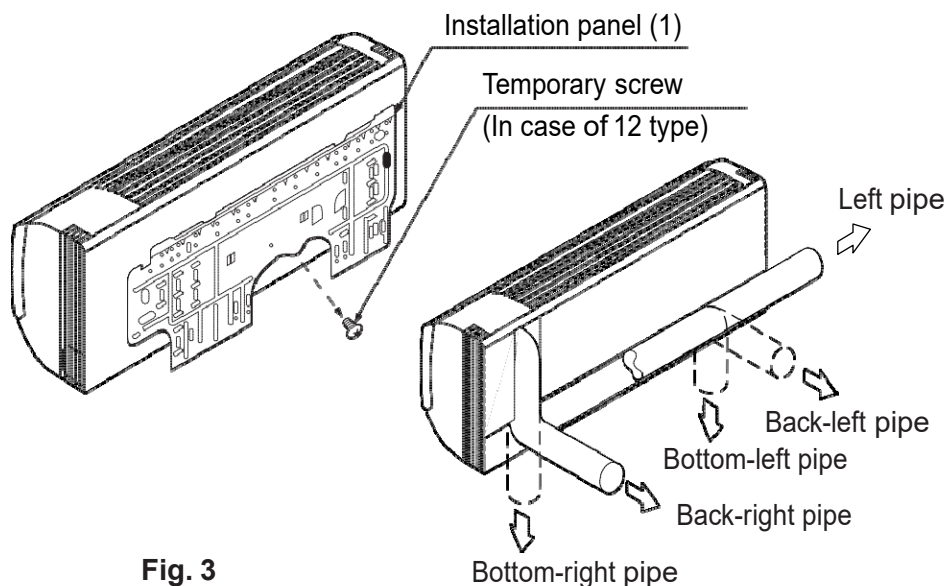

Fig. 3
(1) Open the piping through-hole.
- The refrigerant pipe and drain pipe can be passed out in one of 5 directions: left, bottom-left, back-left, bottom-right, and back-right. **(Refer to Fig. 3)**
- Using the paper pattern for installation (3), choose where to pass the piping out and open a through-hole ($\varnothing 3 \frac{1}{8}$ ") in the wall.
(Refer to Fig. 3)